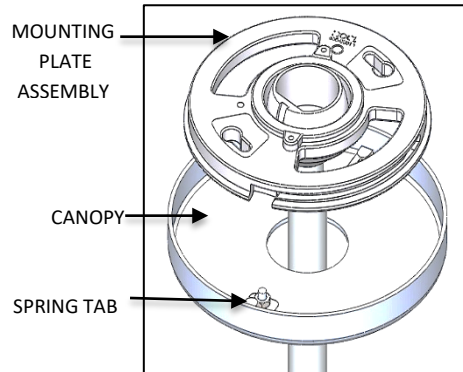

FIG. 7 – CANOPY DISASSEMBLY
1. Loosen canopy and slide down stem by rotating the canopy 90 degrees counterclockwise. Be careful not to damage the finish of the fixture. FIG. 7.